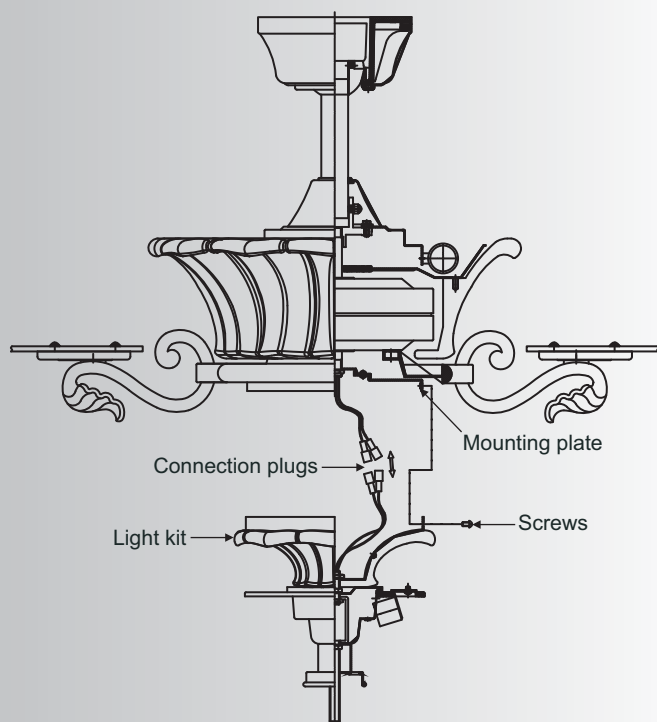

Fig. 19
Step 2. Raise and hold the light kit close to the mounting plate. Connect the white wire connectors from the light kit and fan. Follow the same procedure with the black wire connectors. (Fig. 19)
Step 3. Tuck connections neatly into mounting plate, Place the light kit key holes over the 3 screws previously loosened from the mounting plate, turn light kit until it locks in place at the narrow section of the key holes. Secure by tightening the 3 screws previously loosened. (Fig. 19)